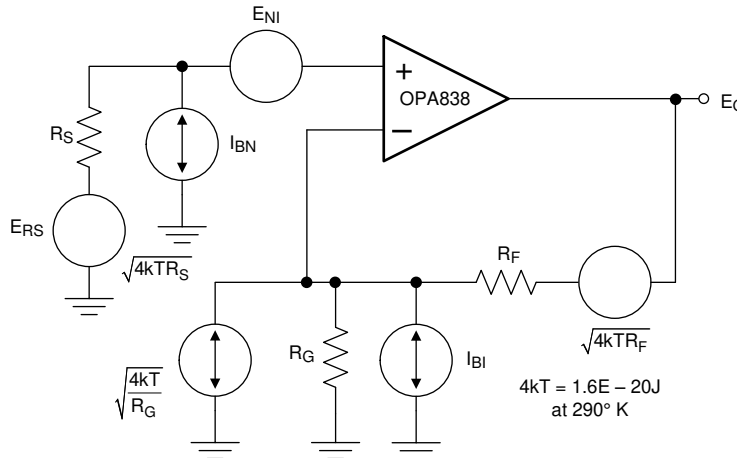
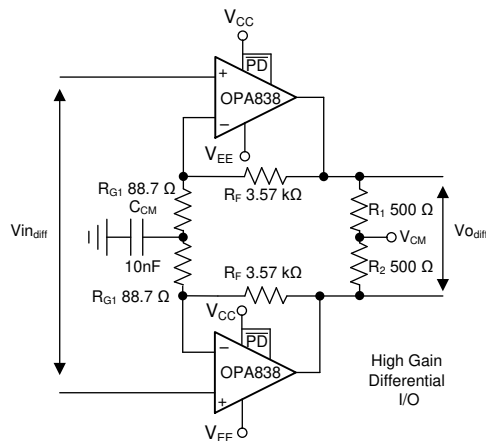

图 9-3. Op-Amp Noise-Analysis Model
图 9-4. High-Gain Differential I/O Stage
The decompensated voltage feedback of the OPA838 op amp offers among the lowest input voltage and current noise terms for any device with a supply current less than 1 mA. 图 9-3 shows the op amp noise analysis model that includes all noise terms. In this model, all the noise terms are shown as noise voltage or current density terms in nV/√Hz or pA/√Hz.
The total output spot noise voltage is computed as the square root of the squared contributing terms to the output noise voltage. This computation is adding all the contributing noise powers at the output by superposition, then taking the square root to return to a spot noise voltage. 方程式 3 shows the general form for this output noise voltage using the terms presented in 图 9-3.
A high-gain differential-to-differential I/O circuit can be used to drive a second-stage FDA or a differential-to-single-ended stage. This circuit is frequently used in applications where high input impedance is required (for example, if the source cannot be loaded). 图 9-3 illustrates an example design where the differential gain is 41 V/V. An added element between the two R_G resistors increases the noise gain for the common-mode feedback. Make sure to provision for the added element; otherwise, a decompensated VFA (such as the OPA838) often oscillates. With only the R_G elements in the differential I/O design, the common-mode feedback is unity-gain and often causes high-frequency, common-mode oscillations. To resolve this issue, split the R_G elements in half and add a low-impedance path, such as a capacitor or a DC reference, between the two R_G values.
As an example design, start with the circuit in 图 9-4.
- Assess the DC common-mode biasing on the noninverting inputs. The DC biasing must be in range and have a gain of 1 to the output. This is not illustrated in 图 9-3.
- If a DC reference is used as the mid- R_G bias, setting the reference equal to the noninverting input bias voltage sets the output common-mode to that voltage. Using a capacitor as illustrated in 图 9-3 accomplishes the same results.
- Set the total R_G value near the high gain values using 表 9-1. This 178- Ω total must be split for a center tap to increase the common-mode noise gain, as shown by the 88.7- Ω value in 图 9-4.
The common-mode loop instability without the R_G center tap is not often apparent in the closed-loop differential simulations. The common-mode loop instability without the R_G center tap can often be detected in a common-mode output-noise simulation as 图 9-5 shows. Grounding the inputs 图 9-4 and running an output-noise simulation for the common-mode tap point in 图 9-3 shows a peaking in the noise at high frequency. This peaking indicates low-phase margin for the common-mode loop. 图 9-5 shows this peaking in the lowest noise curve, with two options for improving phase margin. The first option used in 图 9-4 is a capacitor to ground set to increase the common-mode noise gain only at higher frequencies. This increase can be seen by the peaking in the common-mode noise of 图 9-5. Another alternative is to provide a dc voltage reference on the R_G center tap. This method raises the common-mode noise gain from dc and beyond. Neither of these latter two options show any evidence of low phase-margin peaking. These two options do increase the output common-mode noise significantly at lower frequencies. Typically, an increase in output common-mode noise is more acceptable than low-phase margin because the next stage (FDA, ADC, differential to single stage) rejects common-mode noise.